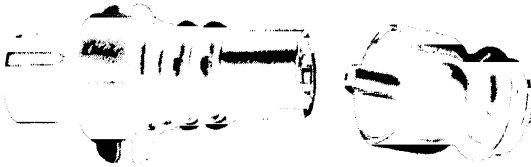
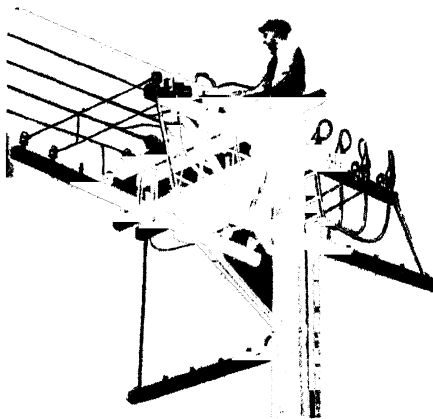

FIG 4-62 Single-conductor disconnecting-type pothead (Courtesy G & W Electric Specialty Co)
FIG 4-63 Single-conductor disconnecting-type pothead. A pull upward and the line is disconnected (Courtesy G & W Electric Specialty Co)
**Disconnecting-type Pothead.** When cables terminate on pole tops or when it is desirable to sectionalize circuits for testing, the so-called "disconnecting" type of pothead is employed (Fig. 4-62). This pothead is arranged with an insulator-shaped cap which sits over the top of the tube and carries one member of the slip connection. The other member of the connection is fastened to the end of the cable conductor. This type of pothead is used very extensively on distribution circuits where it also serves as a disconnecting switch (see Fig. 4-63).